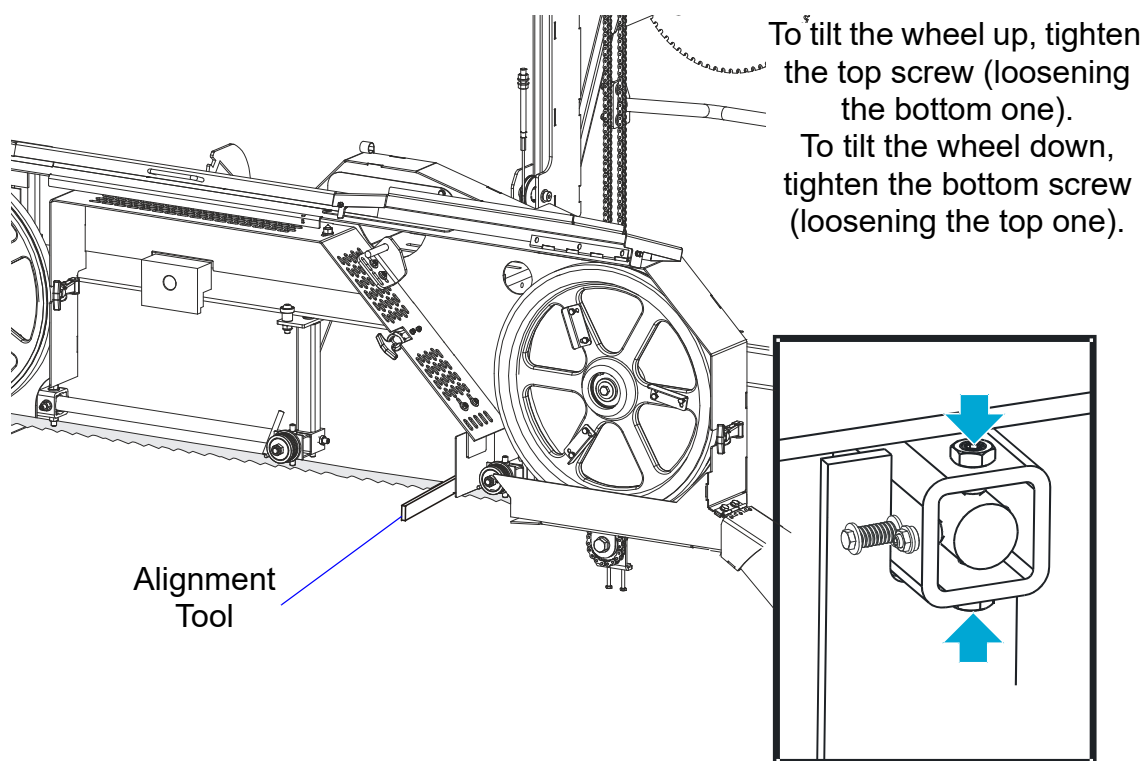

FIG. 3-6
- Remove the tool from the blade and reattach it near the inner blade guide. Measure from the tool to the bed rail at both ends of the tool. If the measurements at the front and rear ends of the tool differ by more than 1/16" (1.5 mm), adjust the vertical tilt of the drive-side blade wheel. See See figure 3-6.
See figure 3-6. Use screws shown below to adjust vertical tilt of the drive-side blade wheel. To tilt the drive-side blade wheel down, loosen the top adjustment screw. Loosen the jam nut on the bottom adjustment screw and tighten the screw. Tighten the top and bottom jam nuts.